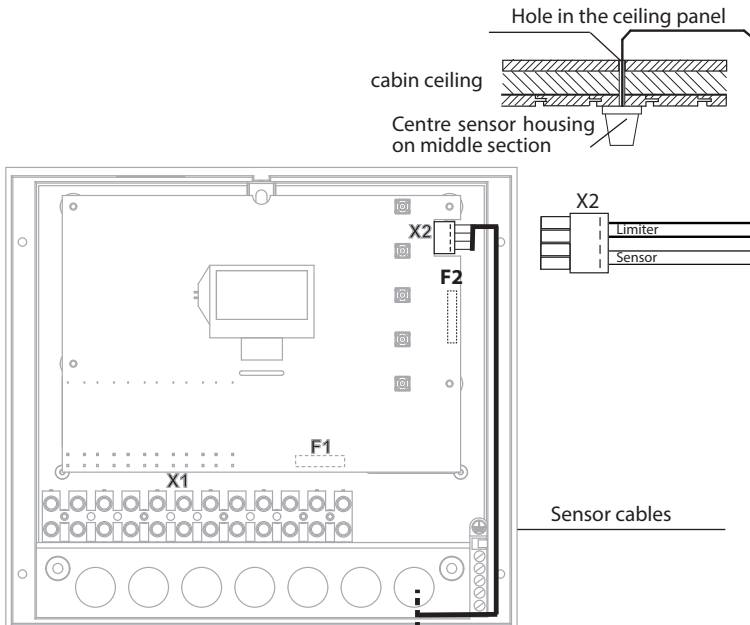

Fig. 10
3. Lead the sensor cable through the drilled hole and attach it to the sensor line according to fig. 10.
4. The cables for the limiter (white) and the temperature sensor (red) are connected to the sensor circuit board acc. Fig. 10. Engage the sensor board into the casing.